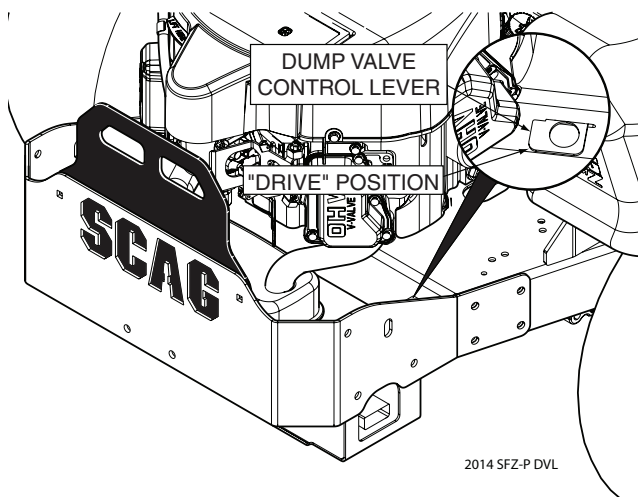

Figure 4-2. Dump Valve Control
10. **Dump Valve Control Levers (Figure 4-2).** Located on the left and right side at the back of the unit, used to "free-wheel" the mower. Pushing the levers forward (towards the front of the mower) allows the unit to move under hydraulic power. Pulling the levers backward and locking in the notch (towards the rear of the mower) allows the mower to be moved by hand (free-wheeling).